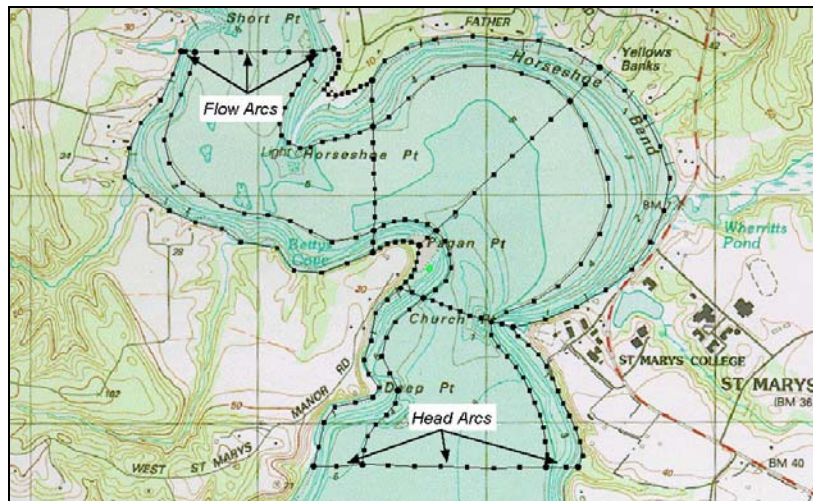

Figure 2-10 The arc groups to create.
2. Holding the *SHIFT* key, select the three arcs that make up the flow cross-section, labeled as *Flow Arcs* in Figure 2-10. (Alternatively, you can select all three arcs by dragging a box around them. This box must include the entire arc.)
4. Now, select the three arcs that make up the head cross-section, labeled as *Head Arcs* in Figure 2-10. (Make sure only these three arcs are selected by checking the *Status Bar* at the bottom right of the *Main Graphics Window*.)